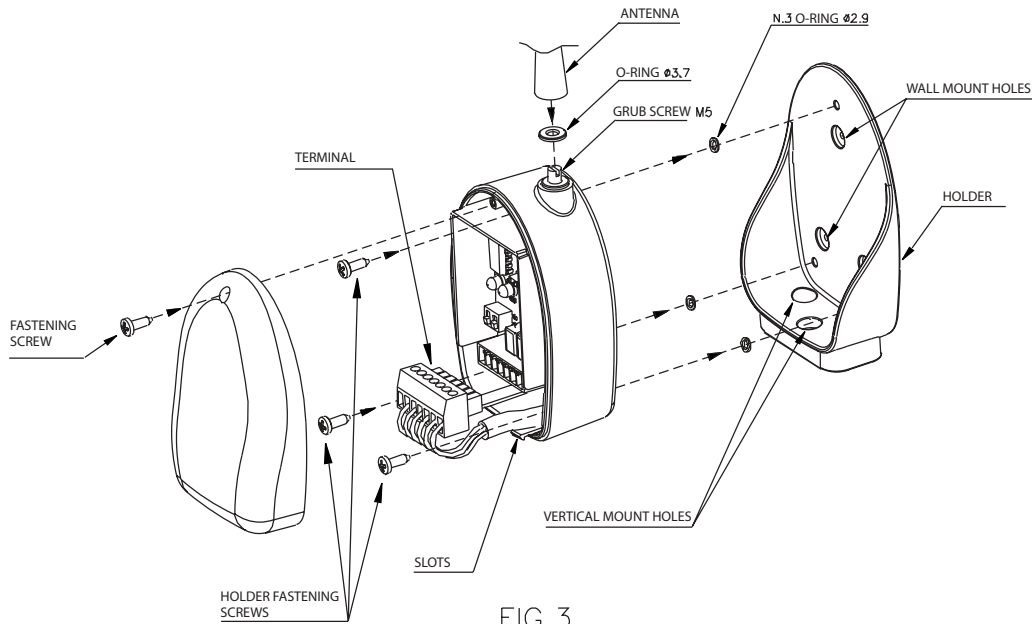

FIG.3
- Open the radio receiver's casing, removing the screws (see Fig. 3);
- Set the O-ring on the grub screw, as indicated in Fig. 3, then screw on the antenna completely.